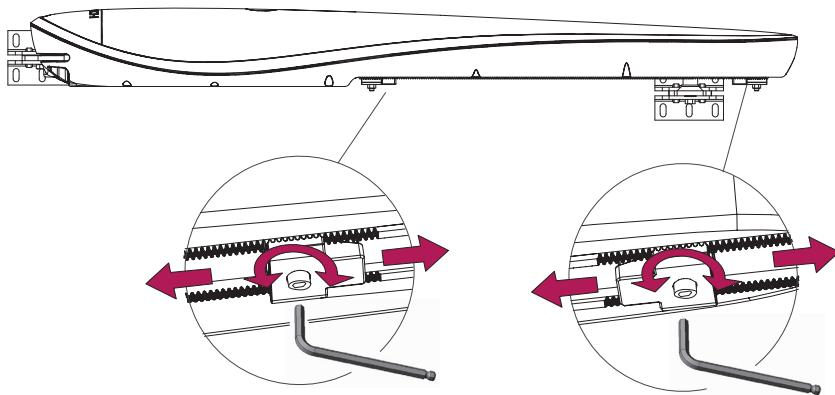

Figure 16. Adjusting the mechanical stops of a drive
- Move a gate leaf manually to the gate opening position, then move the corresponding stop until the stop switch is activated (disengaged/with a distinctive click) (fig. 16).